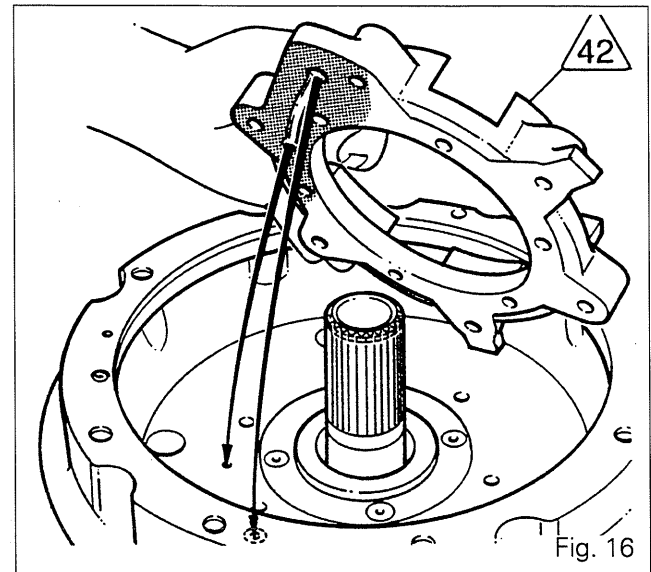

Fig. 16
45. Coat the «seal mating» surface of the brake housing (42) with sealing compound in the area of the lubrication passage (Fig. 16) and proceed with assembly.
46. Coat the bolts (43) with Loctite 241 and tighten them to a torque of 31 - 35 Nm.